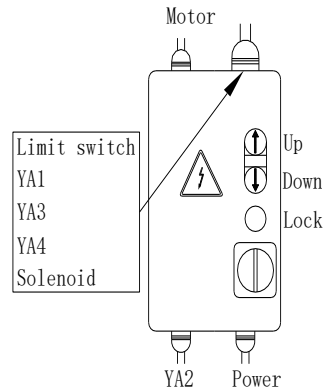

Fig.42
- 2) Connect the power and control system to the terminal strip on the control box (Fig.42) , inserting the cable into the rack passing through the prepared hole and following the wiring diagram on pages 13.
- 4) Close the cover of the electric box, turn the main switch to position 1, press the up push button (Fig.42) ,The motor rotation wise should be the one shown by the arrow on the pump.